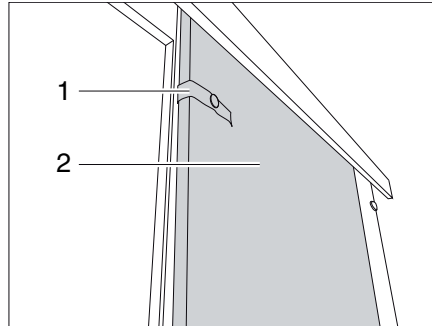

Fig. 78 Sliding door
- Release the securing strap (Fig. 78,1).
- Pull the sliding door (Fig. 78,2) into the closing position.
- Push the sliding door (Fig. 78,2) into the open position.
- Secure the sliding door with the securing strap (Fig. 78,1).